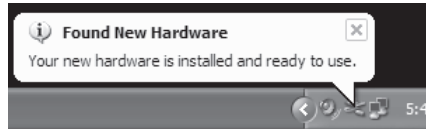

Figure 7
2. When it is finished installing the drivers, it will say "Your new hardware is installed and ready to use" (Figure 7). Note: This balloon will not pop up again for the same USB port.